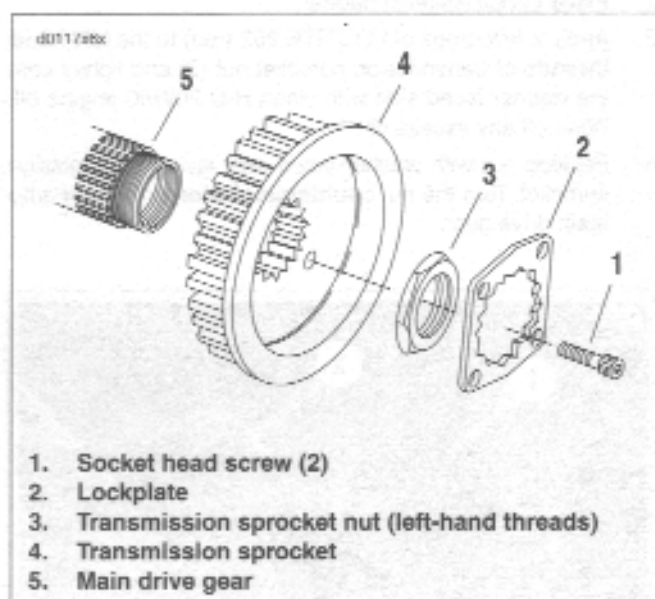

Figure 6-89. Transmission Sprocket
8. See Figure 6-89. Place transmission in first gear. Remove two socket head screws (1) and lockplate (2).
1. See Figure 6-89. Install transmission sprocket (4) with secondary drive belt onto main drive gear (5).
3. Apply a few drops of LOCTITE 262 (red) to the **left-hand threads** of transmission sprocket nut (3) and lightly coat the washer-faced side with clean H-D 20W50 engine oil. Wipe off any excess oil.
9. See Figure 6-89. Install lockplate over nut so that two of lockplate's four drilled holes (diagonally opposite) align with sprocket's two tapped holes.
10. See Figure 6-89. Install two socket head screws through aligned holes of lockplate and into tapped holes of sprocket. Tighten to 90-110 in-lbs (10.2-12.4 Nm).